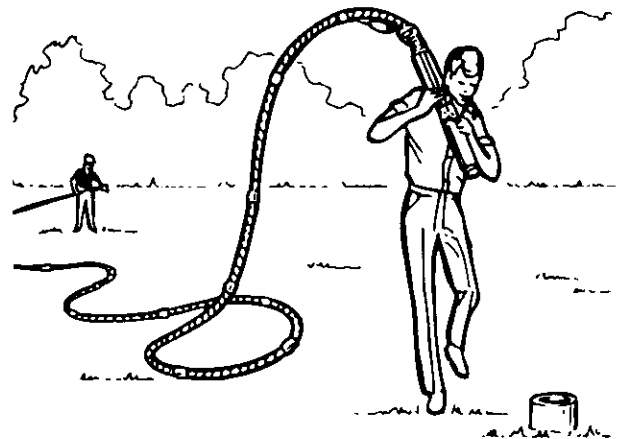

Figure 10
15. To lower the pump into the well will require one person at the well doing the actual lowering, and another at the top end of the assembly. Stand as close as possible to well and lower the unit. (Figure 10).